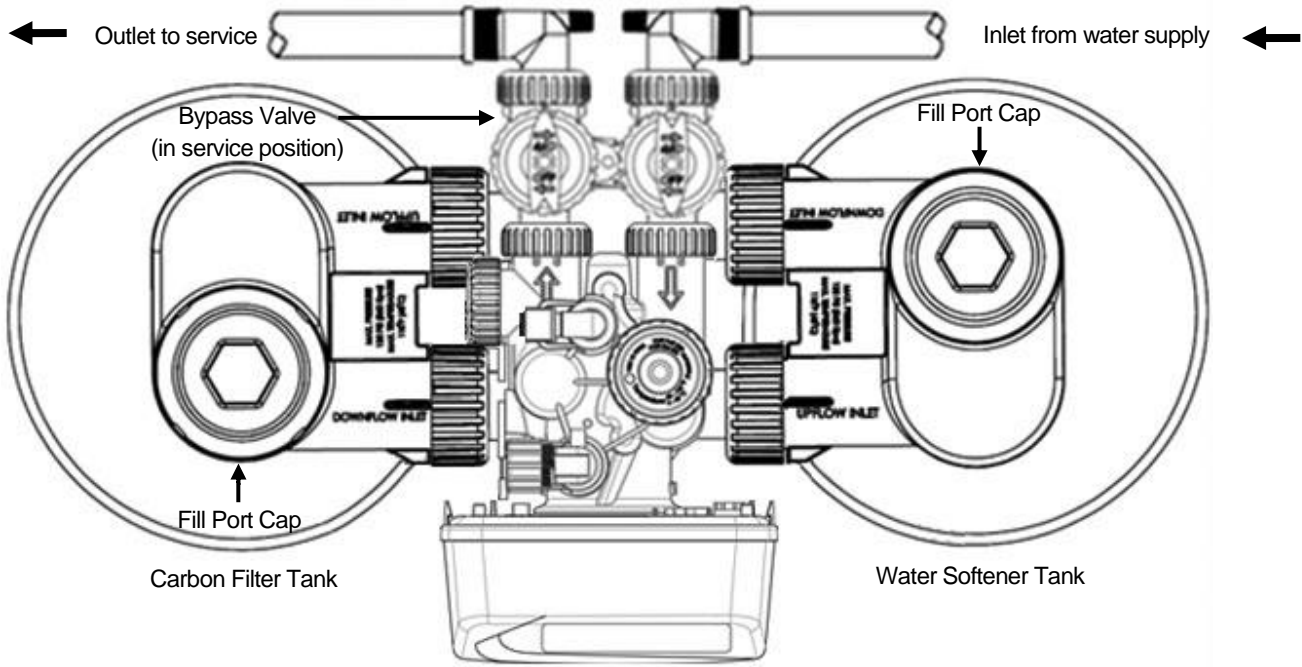

FIGURE 6a: Tank Positioning and Fill Port Location
- STEP 2:** Place the tanks in the upright position. Use the provided wrench to **remove the fill port caps from the filter and softener tanks** (See Figure 6a, page 7) by turning it counter-clockwise.
- STEP 14:** Place the bypass valve in the “Service” position (refer to Figure 2, Page 5; Figure 6a, Page 7) and open main supply valve or turn on power to pump on private well systems. Allow the unit to fill with water and pressurize, then place the bypass valve in the “Bypass” position (refer to Figure 3, Page 5).